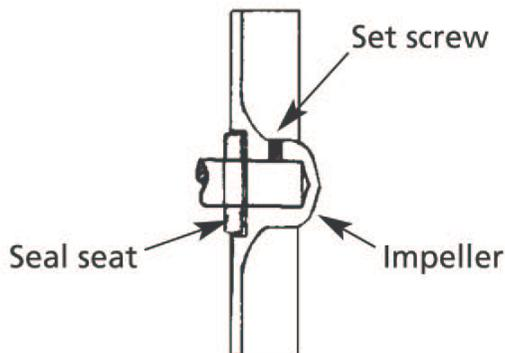

Figure 3 - Mechanical Seal
3. Pry seal seat (Ref. No. 4) from impeller recess with a small screwdriver (see Figure 3).